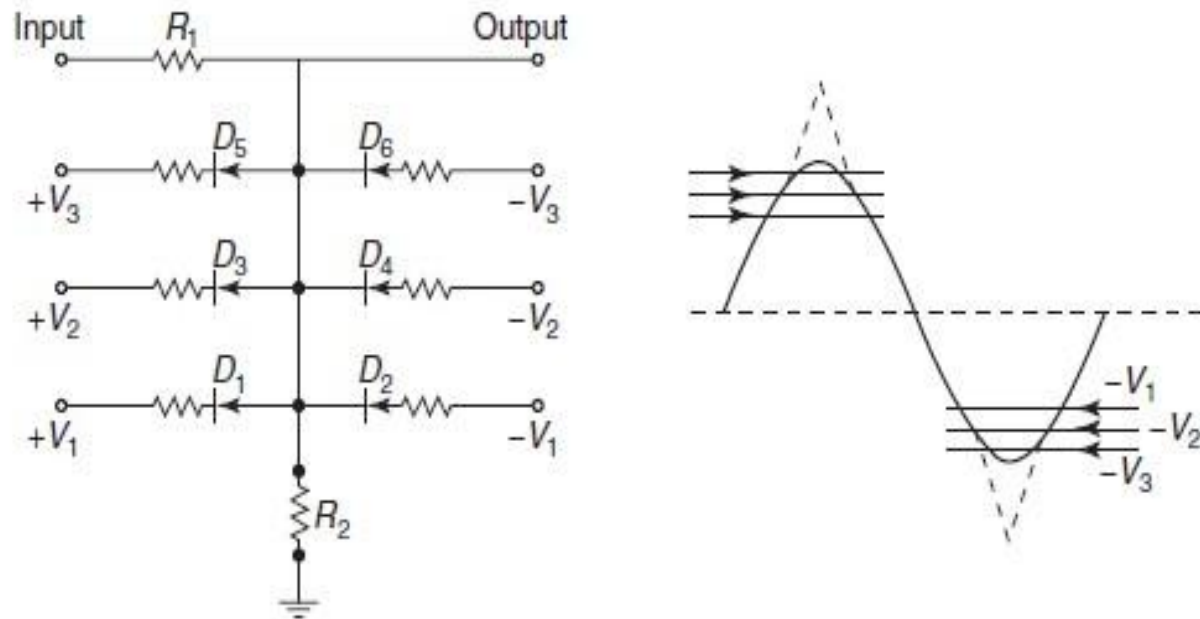

Figure 14-20(a) Diagram for the six-level diode loading circuit
- The approximation may be further improved by employing a six-level diode loading circuit, as shown in Fig. 14-20(a).